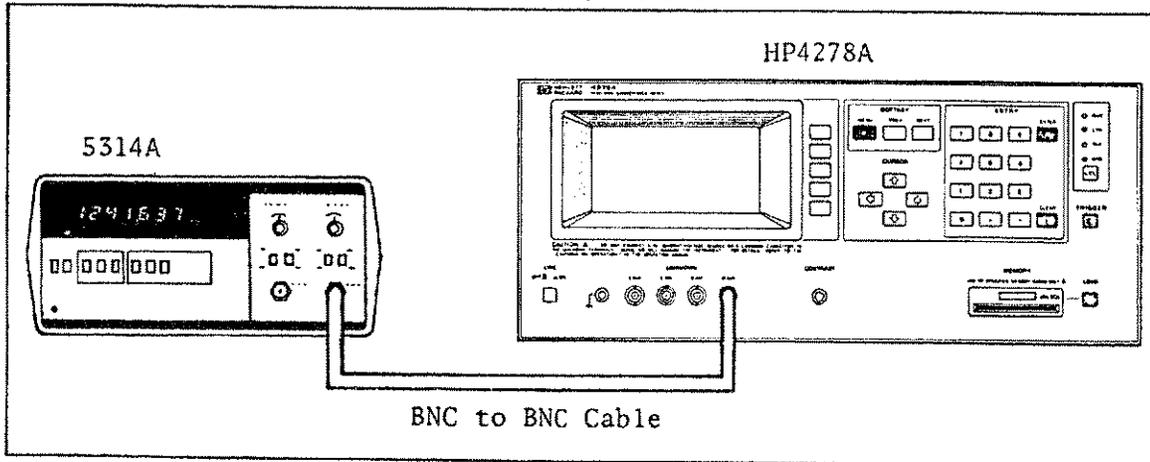

Figure 6-1. Test Frequency Accuracy Test Setup
1. Connect **INPUT B** of the 5314A to the 4278A's Hcur terminal as shown in Figure 6-1.